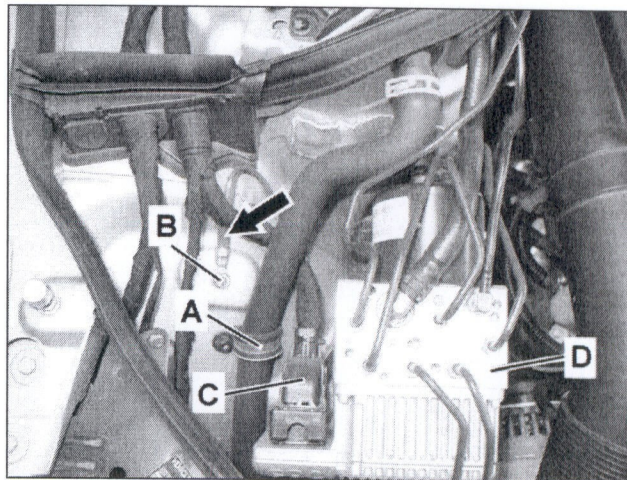

Figure 2
2. Disconnect SBC hydraulic unit harness connector (C, Figure 2).
3. Remove mounting strap (A, Figure 2) and reposition hose and strap (A) to create more working space.
4. Detach SBC hydraulic unit ground wire (arrow, Figure 2) at terminal stud (B).
5. Position harness connector (C, Figure 2) away from SBC hydraulic lines to prevent brake fluid from dripping on SBC harness connector and SBC wiring harness.